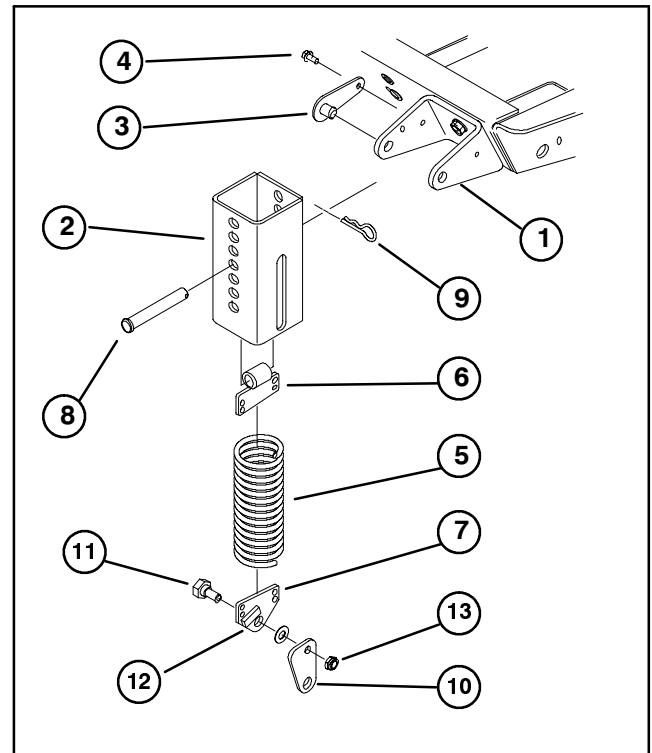

Figure 9
4. Thread the top extension spring coil into the top spring end holes and the bottom extension spring coil into the bottom spring end holes (Fig. 9).
5. Mount knee link to lower spring end with wide part of knee link pointing forward and spring end stop pointing forward. Secure knee link to outer side of spring end with a shoulder bolt, washer and locknut (Fig. 9, 10).
7. Align slotted holes in the spring cover (slot toward the bottom) with the mounting bracket holes. Insert lock pin assemblies into the bracket holes and secure each to the bracket with self-tapping screws (Fig. 9). Torque the screws to 20 ft-lb.
8. From the bottom, insert the spring and top spring end into the spring cover. Select a hole that matches the cutter deck height–of–cut setting; i.e., top cover hole matches the highest height setting, bottom cover hole the lowest, etc. Align the top spring end hole with the selected spring cover holes and insert the clevis pin to secure the spring inside the cover (Fig. 9). Secure clevis pin with a hair pin cotter.